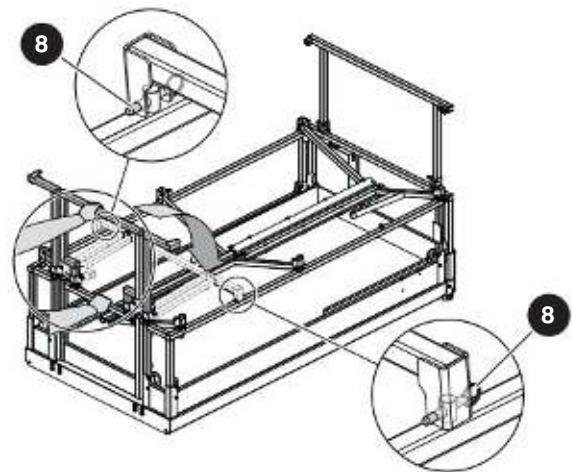

Figure 3-22. Fold down the rear gate.
- Hold the mid-rail with one hand and use the other hand to fold down the rear gate. Refer to Figure 3-22 for hand positions. Lock into place by installing pins 8. Ensure the detent ball of the pin is all the way through.